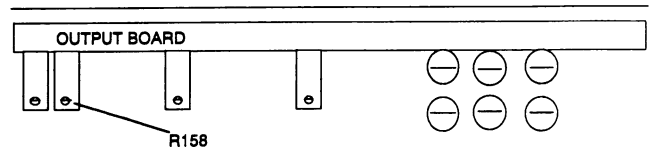

Figure 4-12. R158 Locator
2. Slide the cover back, and adjust the Output board's R158 (see figure 4-12) until the DVM reads $0V_{dc} \pm 2mV_{dc}$ of square offset. Slide the cover back on.